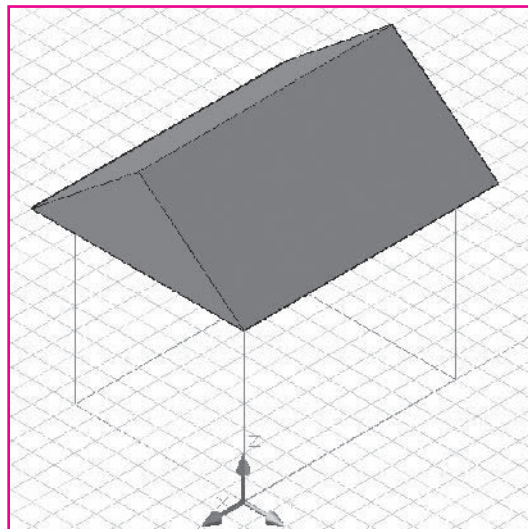

Fig. 41-3
4. Use the endpoint object snap to pick the lower left corner of the shed, as shown in Fig. 41-3.
5. With snap on, draw a **3'**-diameter circle on the floor of the shed. Place the center of the circle **4'** from the front of the shed and **7'** from the left side of the shed, as shown in Fig. 41-3.